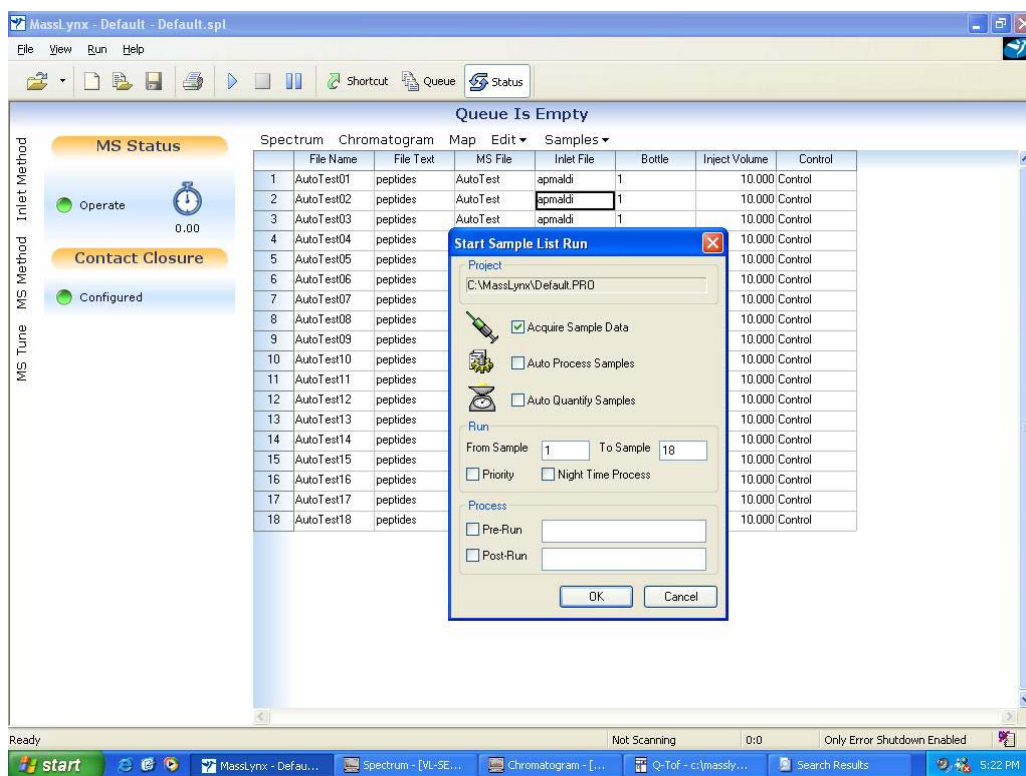
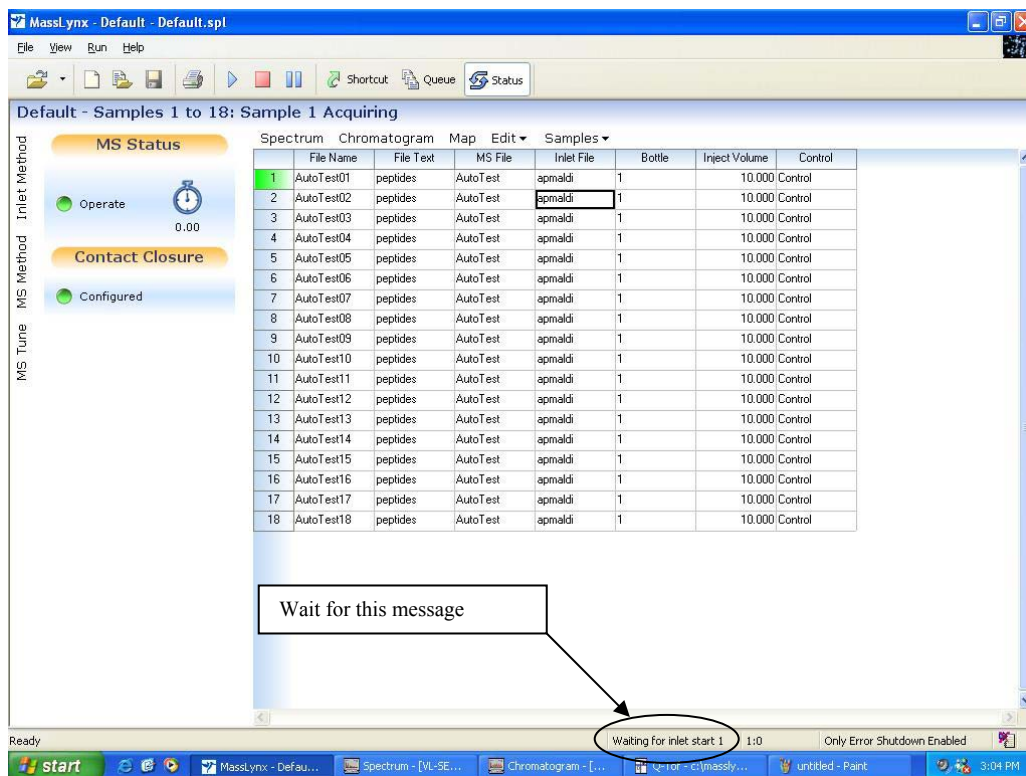

Fig. 48.
Fig. 49.
6. Configure the *MassLynx* to run a desirable number of samples using necessary MS methods and record them using a desirable file names. Check the “Status” button in the *MassLynx* window. Use “MS Method”, “Edit” and “Samples” menu items to edit MS method(s) and the peak list (see Fig. 48). The number of samples in the Peak List table (for example, this number is 18 in Fig. 48) should correspond to the total number of samples selected for analysis in the Target program (step 4).
7. Go to the *Run->Start* to open the Start Sample List Run window, or click "▶" button at the toolbar (see Fig. 48).
Make sure that the appropriate number of samples are assigned for the run (check the fields "From Sample" and "To Sample". The check box "Acquire Sample Data" is to be checked (see Fig. 48). Click on the "OK" button and wait for the Status Bar message "Wait for the inlet start 1" to appear (see Fig. 49)
- After the “Wait for the inlet start 1” message is displayed in the Status bar of the *MassLynx* window (See Fig. 49), press the START button in the *TARGET* software window to start AP/MALDI operation. The “Acquiring...” message will be displayed in the *MassLynx* status line which later again will be replaced by the “Wait for the inlet start 1” message when the data acquisition from the first sample is completed. This process will be repeated until the last sample is analyzed. The sample positions on the map where the data have been collected are shown by a solid color. The current sample is shown by a blinking color.